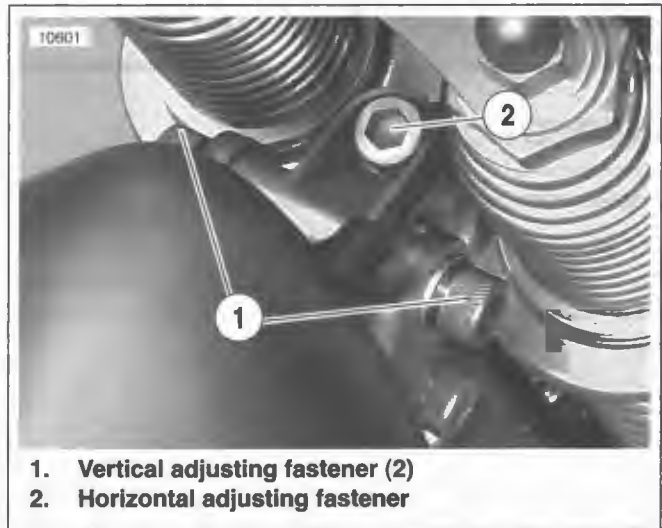

Figure 1-59. Headlamp Adjustment: FLSTSC
1. See Figure 1-59. Set vertical adjustment.
- a. Loosen the two vertical adjustment fasteners (1).
- a. Loosen the horizontal adjustment fastener (2).